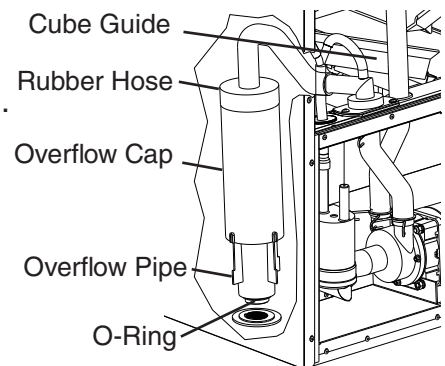

Fig. 10
- 7) Slide the cube guide to the right, then remove the rubber cap and sleeve covering the overflow pipe. See Fig. 10. Unscrew the overflow pipe. After the water tank has drained, reconnect the overflow pipe. Replace the rubber cap, sleeve, and cube guide in their correct positions. **NOTICE! Make sure the O-ring is attached to the bottom of the overflow pipe and be careful not to cross thread the overflow pipe.**